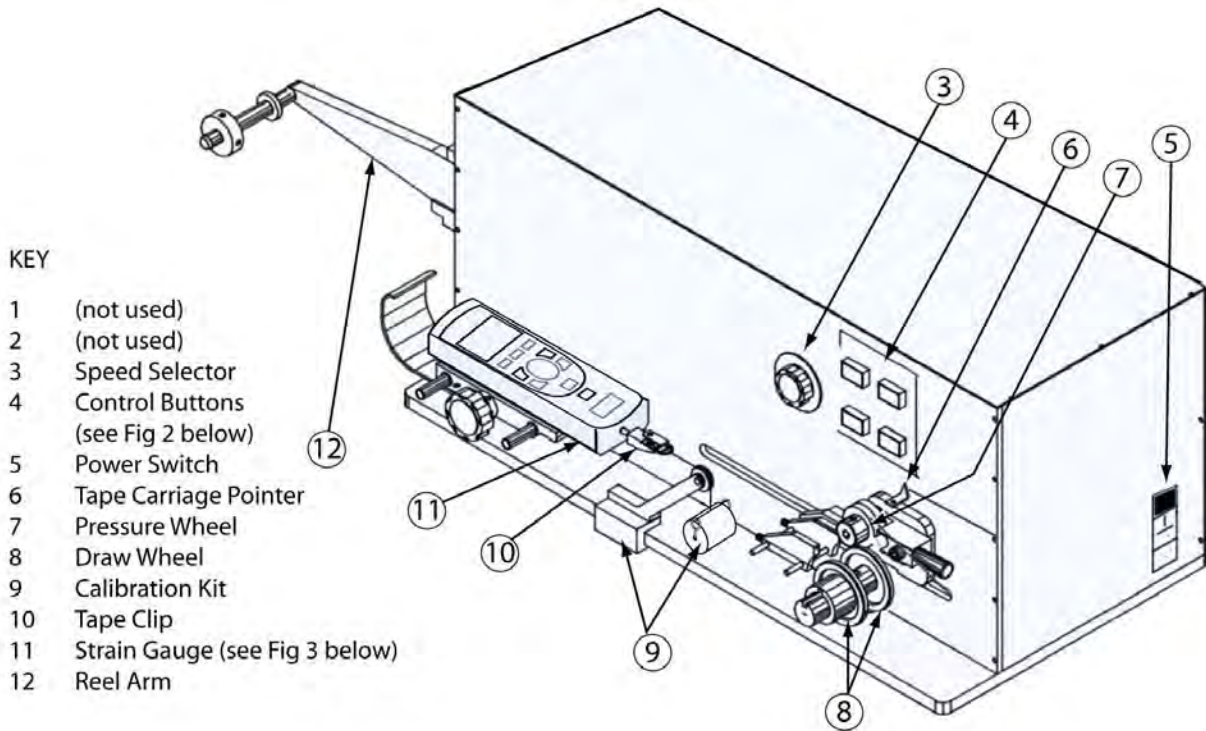

Figure 1 PBFT VS - Key elements (shown with Calibration Kit installed)
5. Verify that the draw wheel (see page 2, Figure 1, Item 8) and pressure wheel (Item 7) are in place.
2. Verify that the strain gauge (page 2, Figure 1, Item 11) is functional:
- b. Manually position the tape carriage pointer (Figure 1, Item 6) with the zero (0) mark on the Length of Test scale (see below).
- d. Select a speed on the speed selector (Figure 1, Item 3).